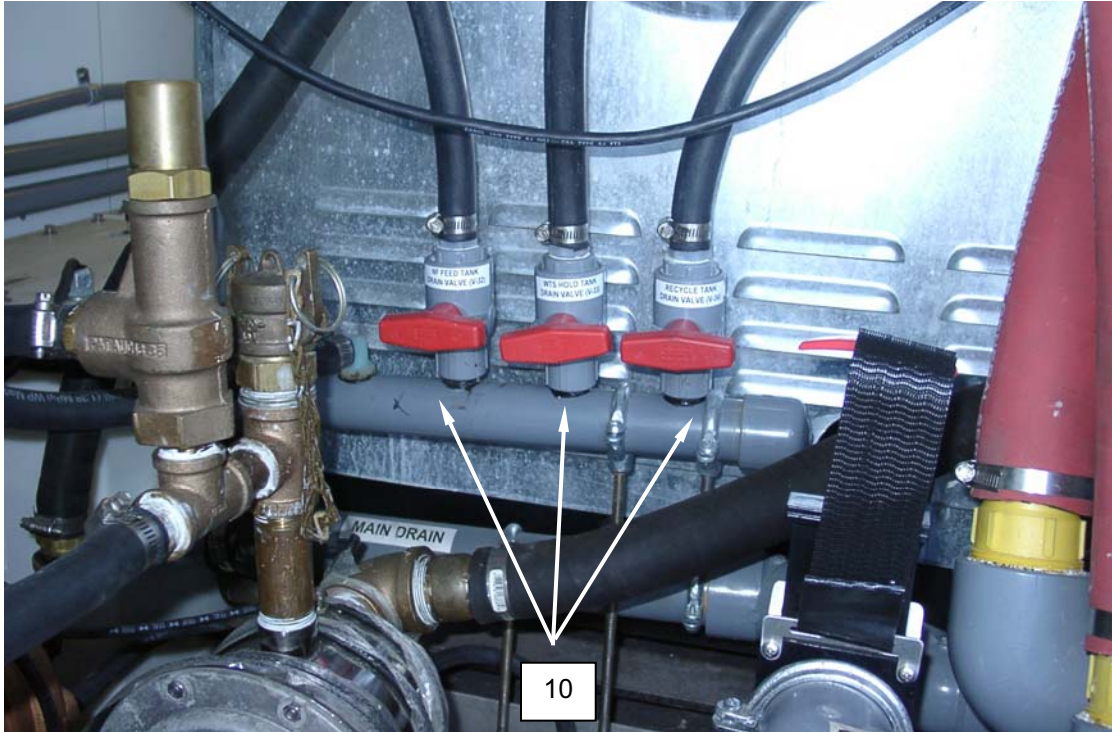

Figure 6. Tank Drain Valves.
5. Close the tank drain valves (Figure 6, Item 10).